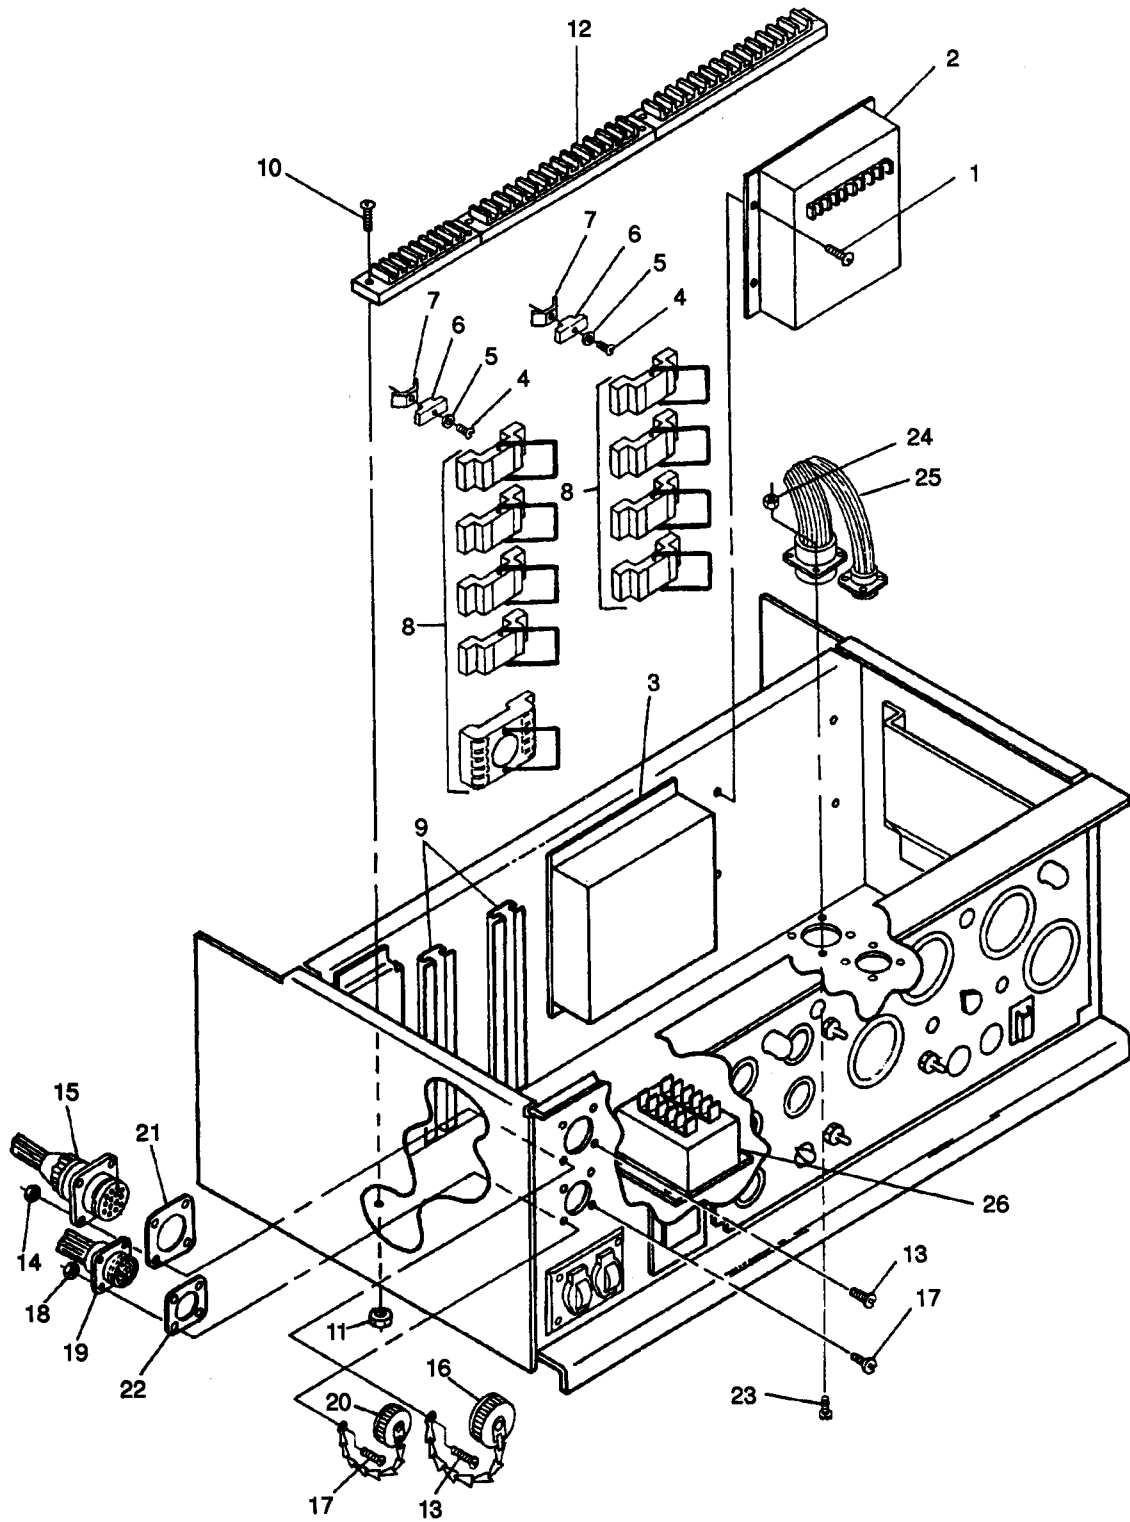

FIGURE 4-3. CONTROL BOX COMPONENTS
- s. Set multimeter for DC volts and connect to terminals 11 and 12 of governor control unit (3, **FIGURE 4-3**). t. Adjust **LOAD SHARING ADJUST** rheostat until multimeter indicates 6 VDC. Disconnect multimeter.
- (1) Turn **GOV GAIN** potentiometer to its full clockwise position.
- (2) Momentarily actuate and turn off **LOAD** switch on control panel.
- (3) Observe strip chart on recorder for frequency oscillation (hunting). If required, slowly turn **GOV GAIN** counterclockwise until frequency oscillation disappears.
- f. Remove screws (4, FIGURE 4-3), washers (5), insulators (6), and clips (7).
- g. Tag and remove sockets (8) from tracks (9).
- h. Remove screws (10) and nuts (11) to free terminal boards (12).
- i. Tag and disconnect electrical leads from AC voltage regulator (2) and governor control unit (3).
- k. Tag and disconnect electrical leads to CONVENIENCE RECEPTACLE (20), GROUND FAULT CIRCUIT INTERRUPTER (23), and connector to malfunction indicator panel (27).
- m. Remove screws (13 and 17, FIGURE 4-3), nuts (14) and (18), caps (16) and (20), diagnostic connector (15), parallel connector (19), and gaskets (21) and (22) from control box panel.
- n. Remove screws (23) and nuts (24) from harness connectors and remove harness assembly (25) from control box.
- a. Position control box wiring harness assembly (25, FIGURE 4-3) in control box.
- b. Secure harness connectors to control box with screws (23) and nuts (24).
- c. Install gaskets (21) and (22), diagnostic connector (15), parallel connector (19), and caps (16) and (20) in control box panel with screws (13) and (17) and nuts (14) and (18).
- f. Connect electrical leads, as tagged during removal, to watt transducer (40), load measuring unit (69), reverse power relay (49), permissive paralleling relay (51), resistor-diode assembly (71), short circuit/overload relay (47), frequency transducer (38), over/under voltage relay (45), DC CONTROL POWER circuit breaker (35), BATTERY CHARGER FUSE assembly (32), OVERSPEED RESET switch (10), FREQUENCY SELECT switch (14), REACTIVE CURRENT ADJUST rheostat (3), LOAD SHARING ADJUST rheostat (7), and shunt (43). Remove tags.
- g. Connect electrical leads to AC voltage regulator (2, FIGURE 4-3) and governor control unit (3). Remove tags.
- h. Secure terminal boards (12) to control box with screws (10) and nuts (11).
- i. Position sockets (8) on tracks (9) as tagged on removal.
- j. Secure sockets (8) to tracks (9) with dips (7), insulators (6), washers (5), and screws (4). Remove tags.
- f. Set multimeter for DC volts and connect positive lead to terminal 11 of load measuring unit (26, FIGURE 4-3) and negative lead to terminal 12.